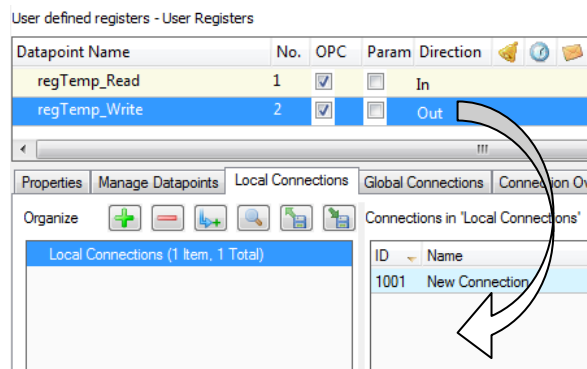

Figure 177: Create a connection with drag-and-drop.
2. In the properties view below the data point list click on the **Local Connections** tab as shown in Figure 177.
3. Then simply drag a data point from the data point list and drop it onto an empty area in the connections list as shown in Figure 177.